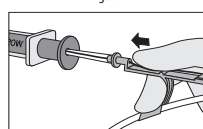

Figure 3
- Place tip of Arrow Advancer – with "J" retracted – into the hole in rear of Arrow Raulerson Syringe plunger or introducer needle (refer to Figure 3).